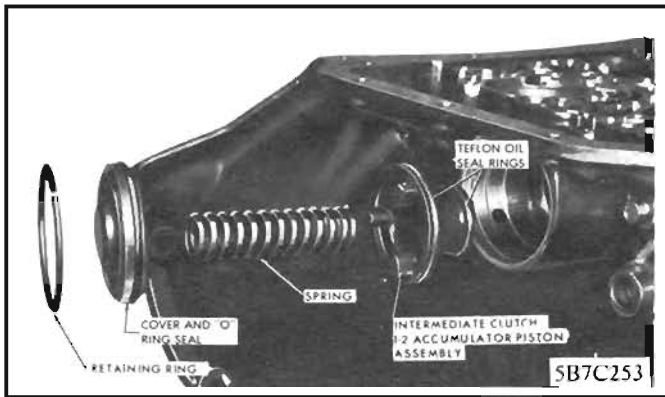

Figure 45 Intermediate Clutch 1-2
2. Remove intermediate clutch 1-2 accumulator piston cover and "O" ring seal from case. See Figure 45.
3. Remove intermediate clutch 1-2 accumulator piston spring. *See Figure 45.*
4. Remove intermediate clutch 1-2 accumulator piston assembly. *Inspect the inner and outer teflon oil seal rings for wearing and scoring. DO NOT REMOVE THESE TWO RINGS UNLESS THEY ARE DAMAGED.* If replacement of one or the other of the two rings is necessary, the piston assembly will have to be replaced. *See Figure 45.* (Piston and Seal are one assembly.)
1. Install intermediate clutch 1-2 accumulator piston assembly and spring. *See Figure 45.*
2. Place new "O" ring seal on intermediate clutch 1-2 accumulator piston cover, and install cover into case. *See Figure 45.*